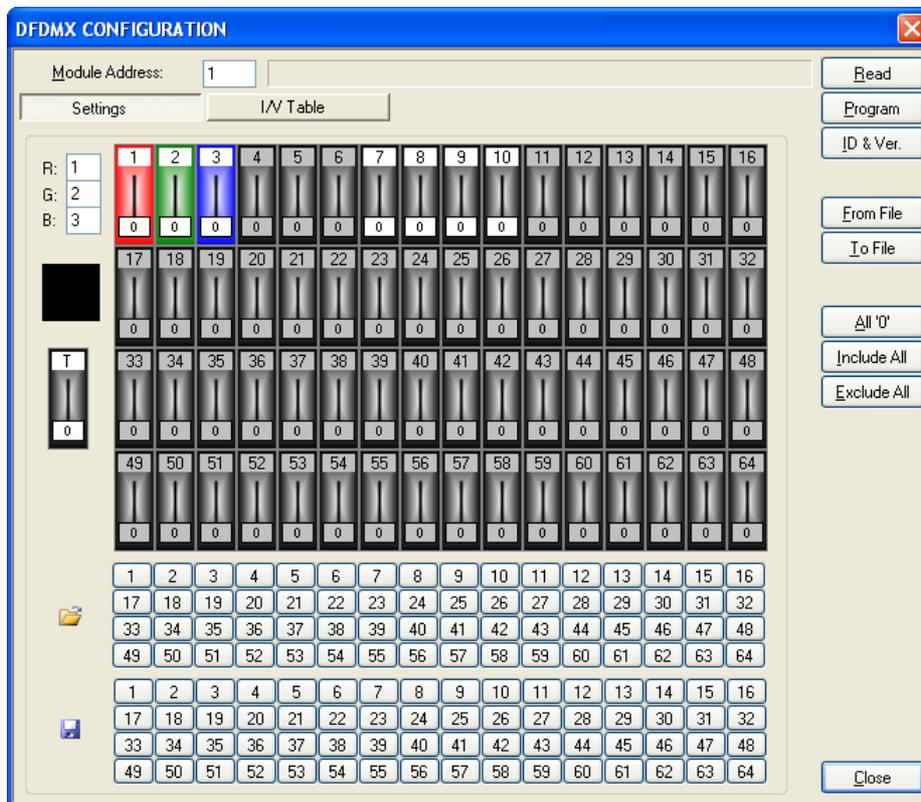

Figure 1: Settings
As said before, DFDMX module can store and recall up to 64 sceneries. This paragraph describes the management of these sceneries by the program BDTools or DCP Ide in simple and fast way. The sceneries management is performed by a PC connected to the **Domino** bus through DFRS, DFTS or DFDP. To access the configuration panel, from the menu of BDTools (or DCP Ide) select Programming, then Modules Configuration and then DFDMX. The window shown in Figure 1 will appear.
The "Settings" TAB in Figure 1 shows 64 sliders allowing to change the value of the related DMX channel; in addition, a slider named "T" allows to set the ramp time. The address of the DFDMX module to be managed must be entered in the text box in the upper left side (1). The bar in the upper side of the window also features some buttons with the following meaning: